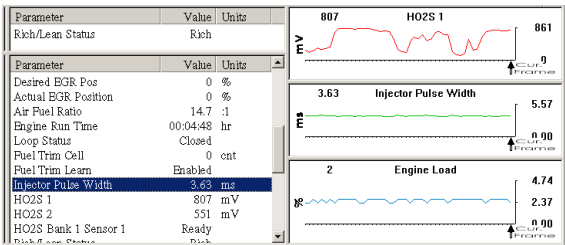

Figure 3.6: Live Data Display, Display Graph
- 7 Click the **OK** button to display the graphs. The graphs appear on the right side of the display area as shown in Figure 3.6 on page 32.